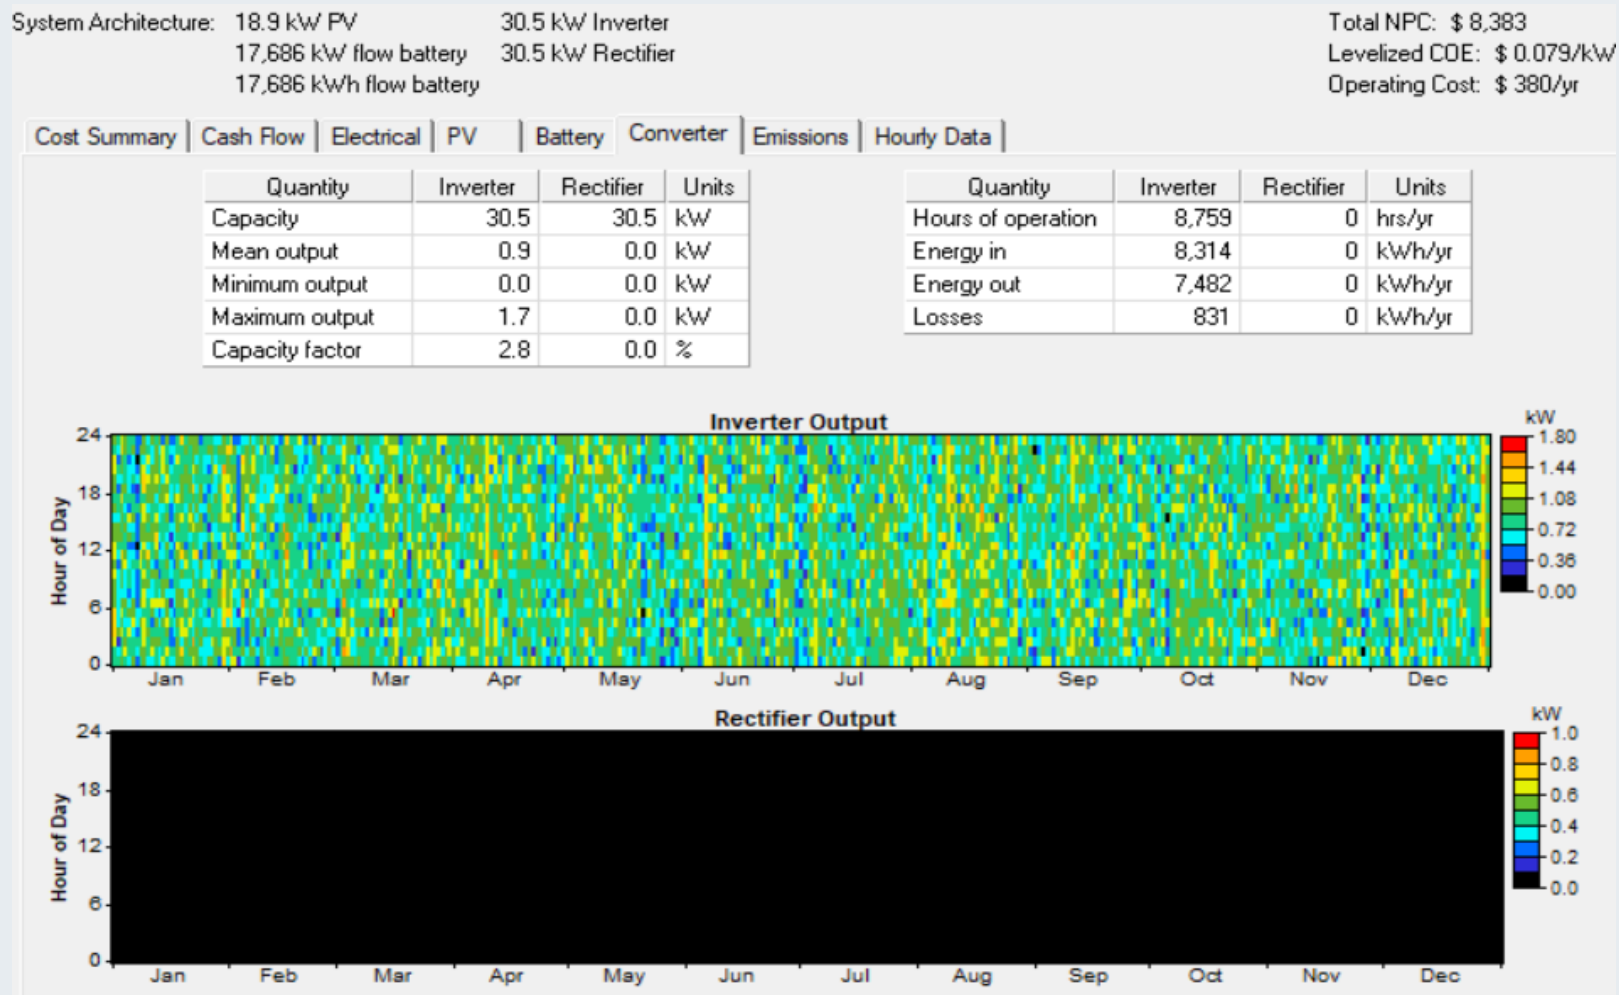

Figure 15 Converter status during Operating condition
- The converter status during operating condition is presented in Fig.15